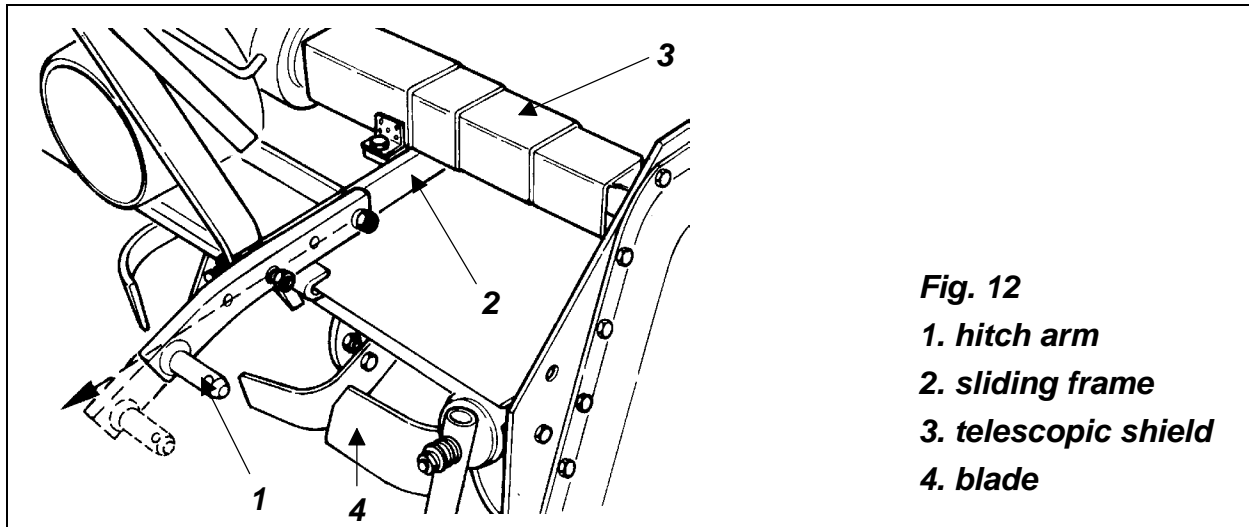

Fig. 12
2. The tiller hitch arms are adjustable in and out and may be positioned turned up or down, depending on driveline length and tractor size (**see fig. 12**).